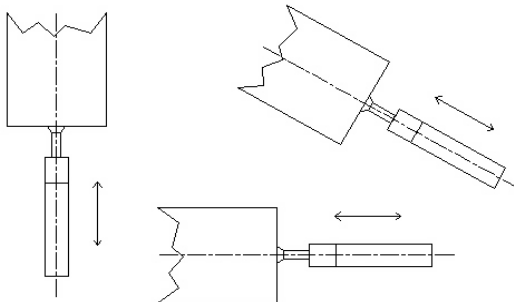

Fig. 2
- 2) During the measurement, the SENSING HEAD along the adapter has to be on a line with measuring object. ( ref. Fig. 2 )